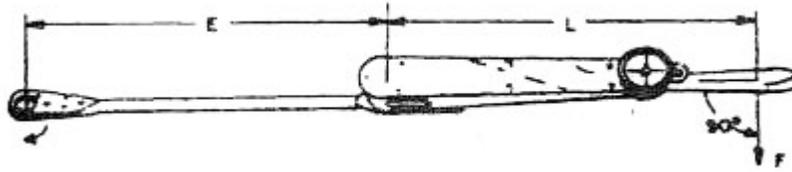

Figure 4-17. Adaptor Attached to Square Drive (Correct Measurement)
11. This adaptor doubles the length and leverage of the torque wrench. The dial will read only  $\frac{1}{2}$  of the torque. Note "L" and "E" are equal. (See Figure 4-17.)